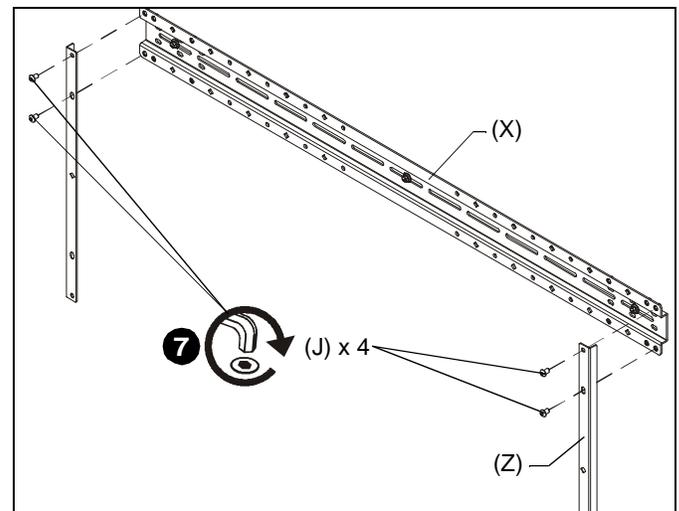

Figure 3
7. Loosely install two side brackets (Z) to upper wall plate (X) using four 5/16 x 1/2" button head cap screws (J). (See Figure 3)